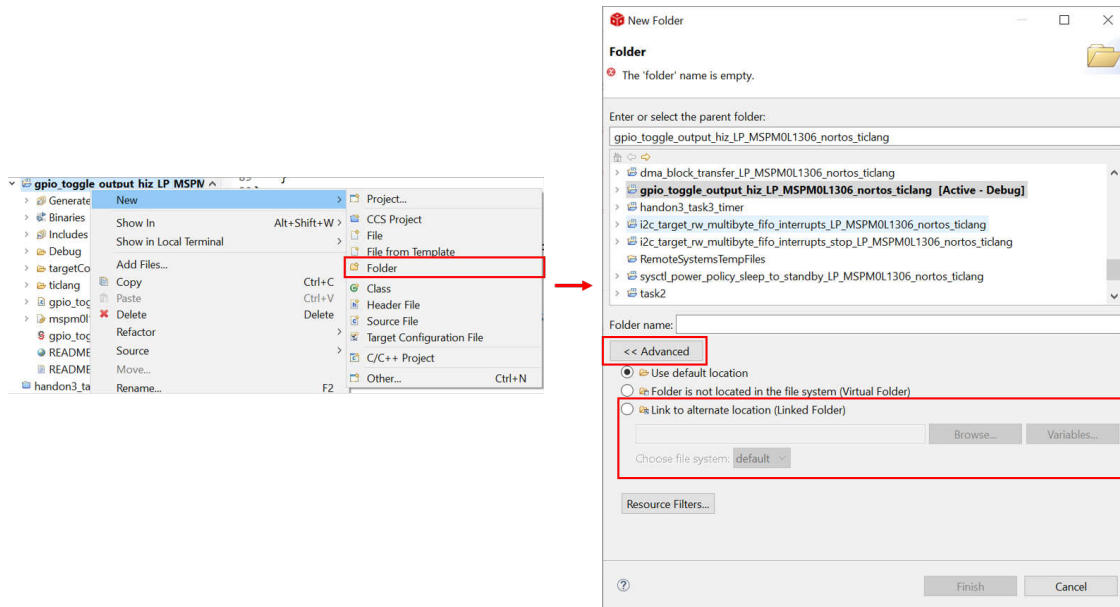

Figure 2-32. Add Relevant File
- If users want to add third-party libraries, then follow the steps below. First, add relevant file into the project, as shown in Figure 2-32.